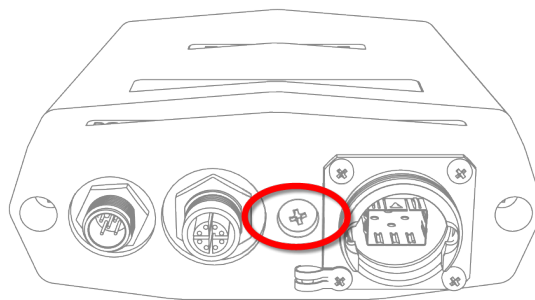

Figure 8. Cisco FM4200 Fiber (Hardware RESET protective screw)
1. Remove the Phillips-head screw labelled **RESET** at the bottom of the unit (Figure 8 \(page 33\)).